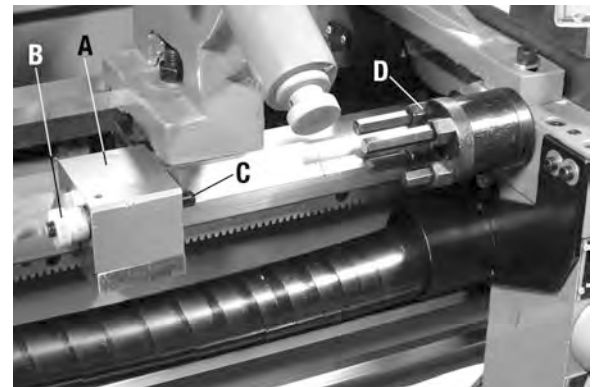

FIGURE 28
This lathe comes with a manual micrometer stop, see Fig.28. At the end of a cut as the cutting tool gets close to the shoulder of the workpiece, disengage the carriage and manually finish the cut by hand operating the carriage.
1. Loosen the two cap screws under the fixed block (A) Fig.28, position fixed block in desired location.
2. The fixed block comes with a dial (B) to set the distance of the fixed block stop (C).
3. The turn-style stops block (D) can then be pivoted to the appropriate position.